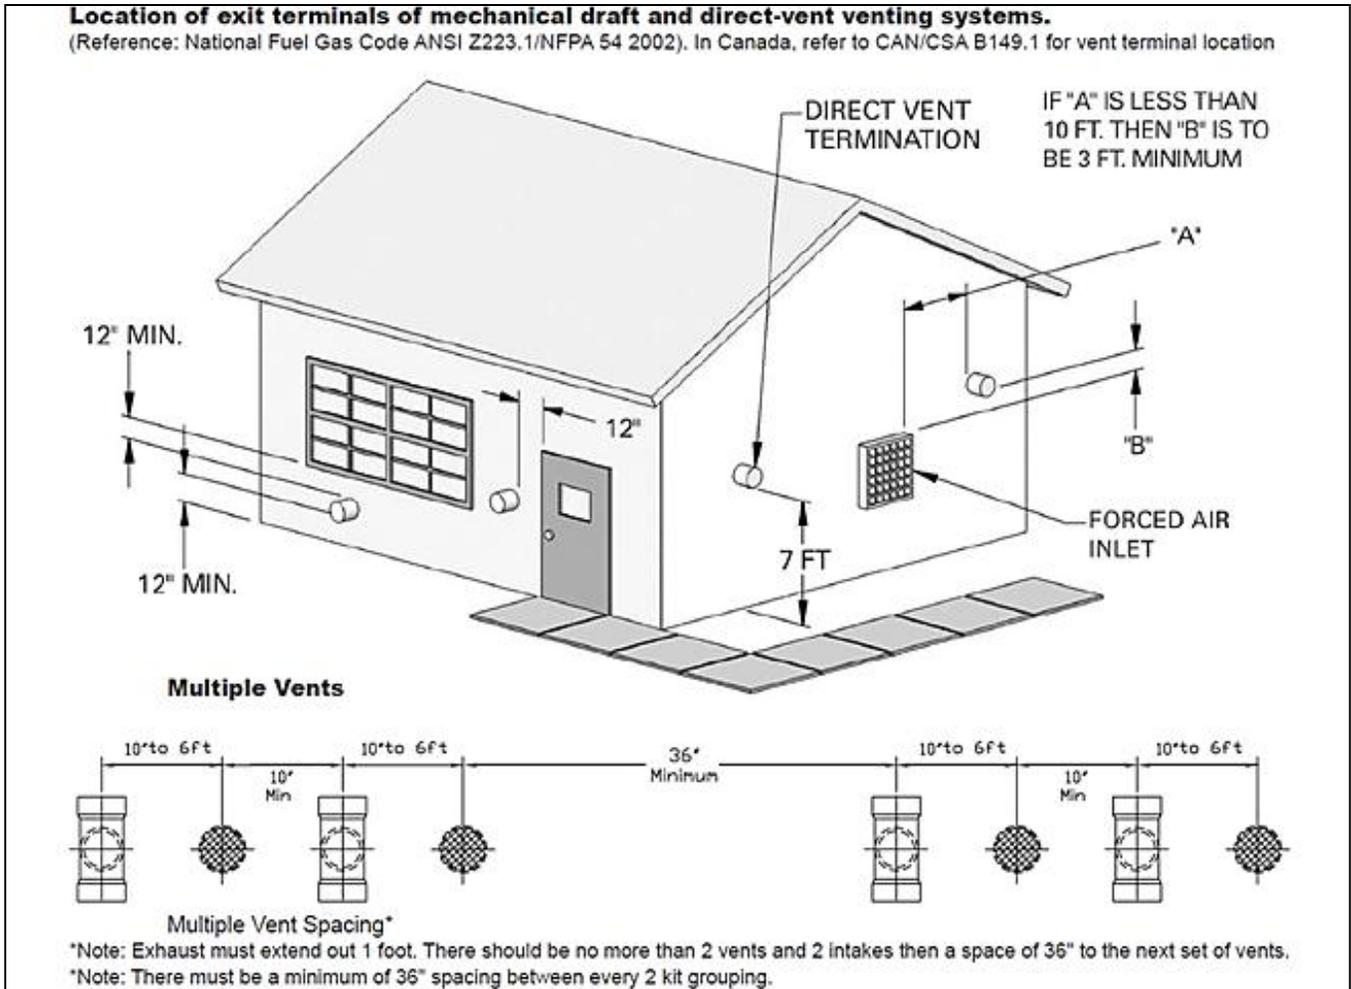

Figure 11 - NOTE: Drawing is meant to demonstrate system venting ONLY.
- Follow required minimum clearances located in Figure 11.